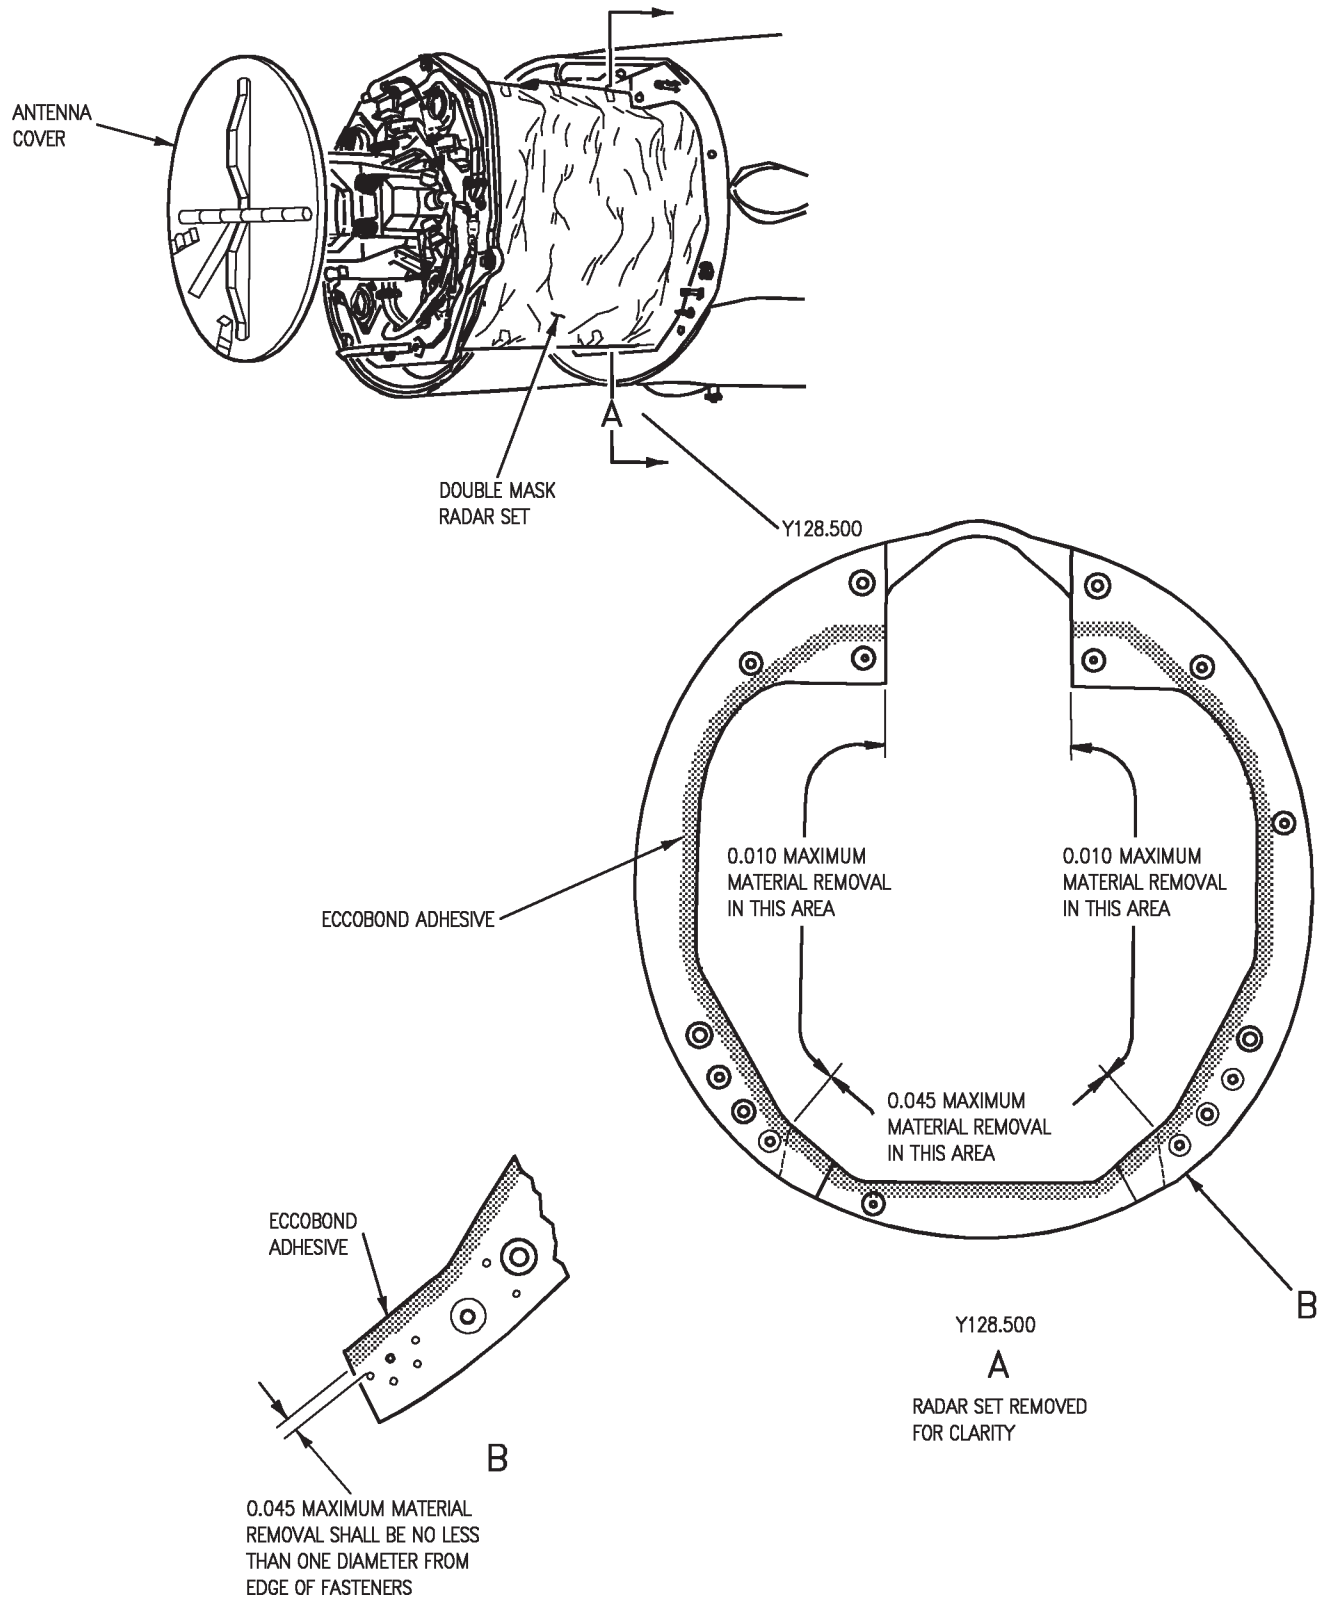

Figure 2. Surface Preparation
a. Remove major portion of Eccobond adhesive from nose radome former using rotary fiber brush with drill motor. See figure 2 for tolerances.
Corrosion damage deeper than tolerances specified on figure 2 requires engineering disposition.